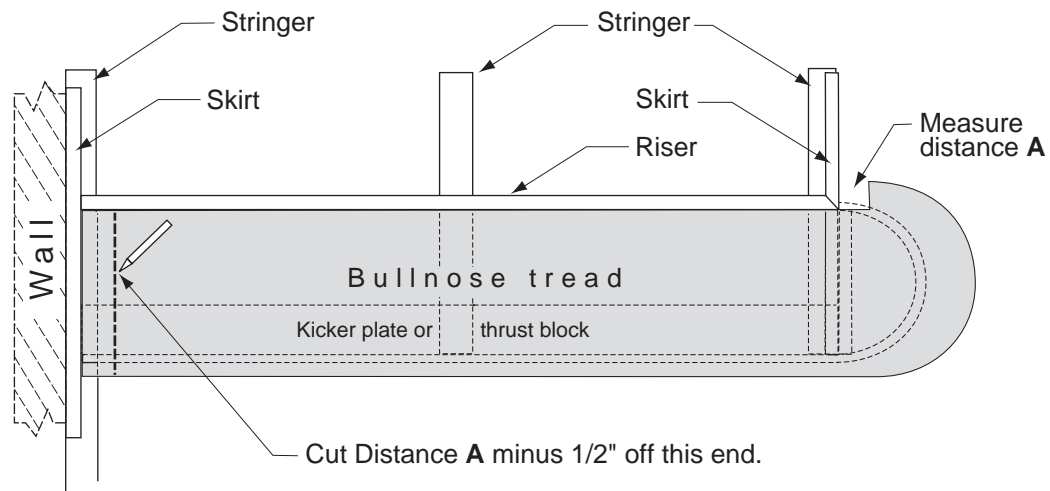

Fig. 2-14 Measuring bullnose tread for rough cut.
2. Measure distance from the offset to skirt. Please note Fig. 2-14 here.